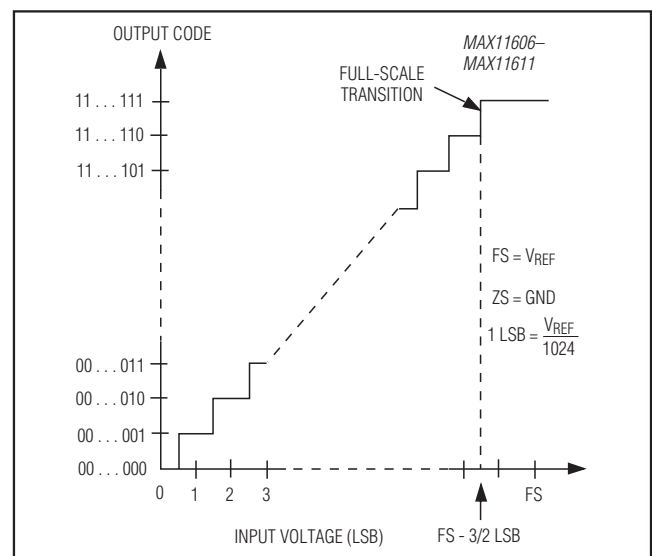
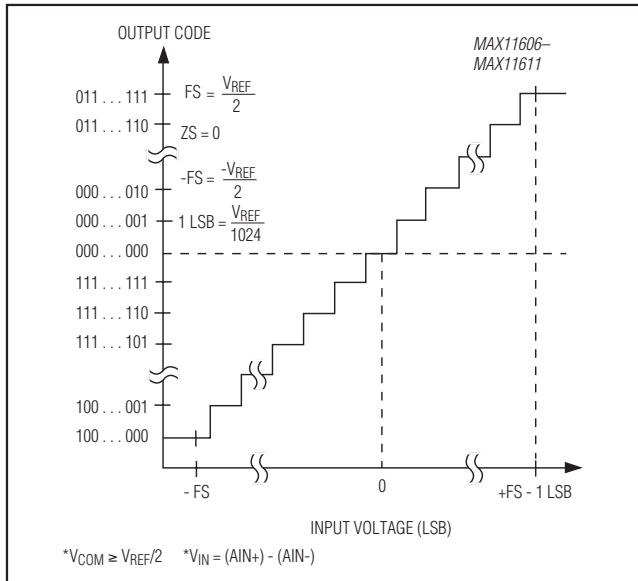

Figure 12. Unipolar Transfer Function
Figure 13. Bipolar Transfer Function
Output data coding for the MAX11606–MAX11611 is binary in unipolar mode and two's complement in bipolar mode with 1LSB =  $(V_{REF}/2N)$  where N is the number of bits (10). Code transitions occur halfway between successive-integer LSB values. Figure 12 and Figure 13 show the input/output (I/O) transfer functions for unipolar and bipolar operations, respectively.